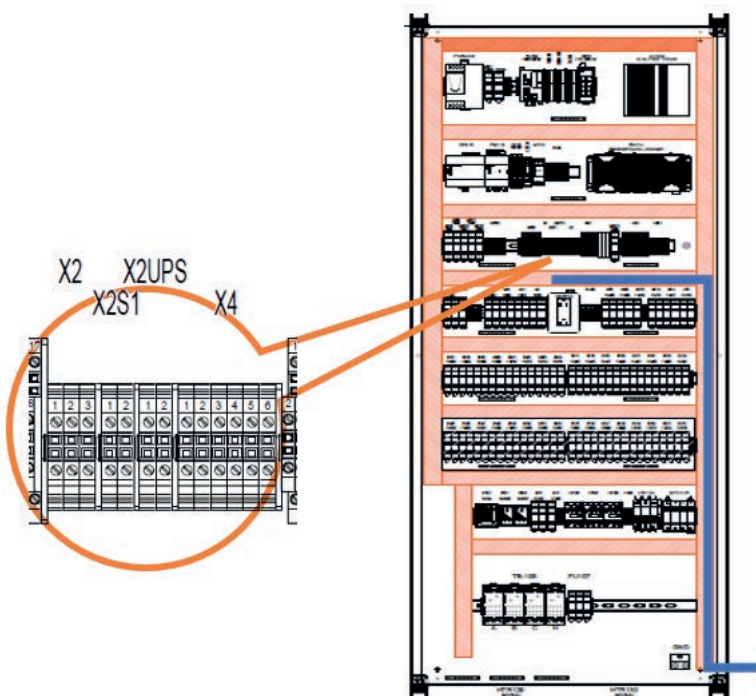

Figure 134. M-Cab XXL Location of C-Cab XXL Auxiliary Power Connection
- a. Route the cable harness as per Figure 134 to Terminal Block “X2S1”.